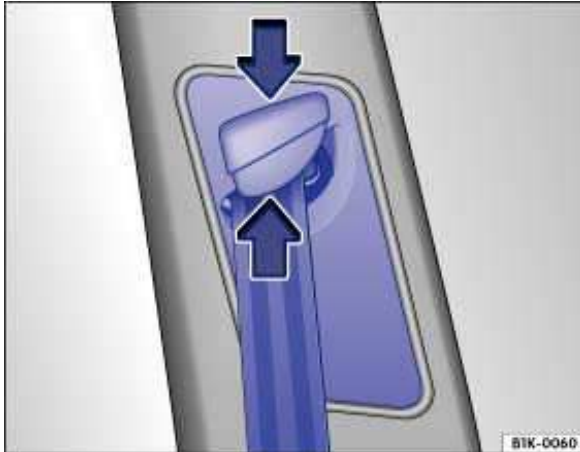

Fig. 56 Next to the front seats: Safety belt height adjuster.
- Pinch the safety belt attachment together as indicated by the arrows and hold ⇒ fig. 56.